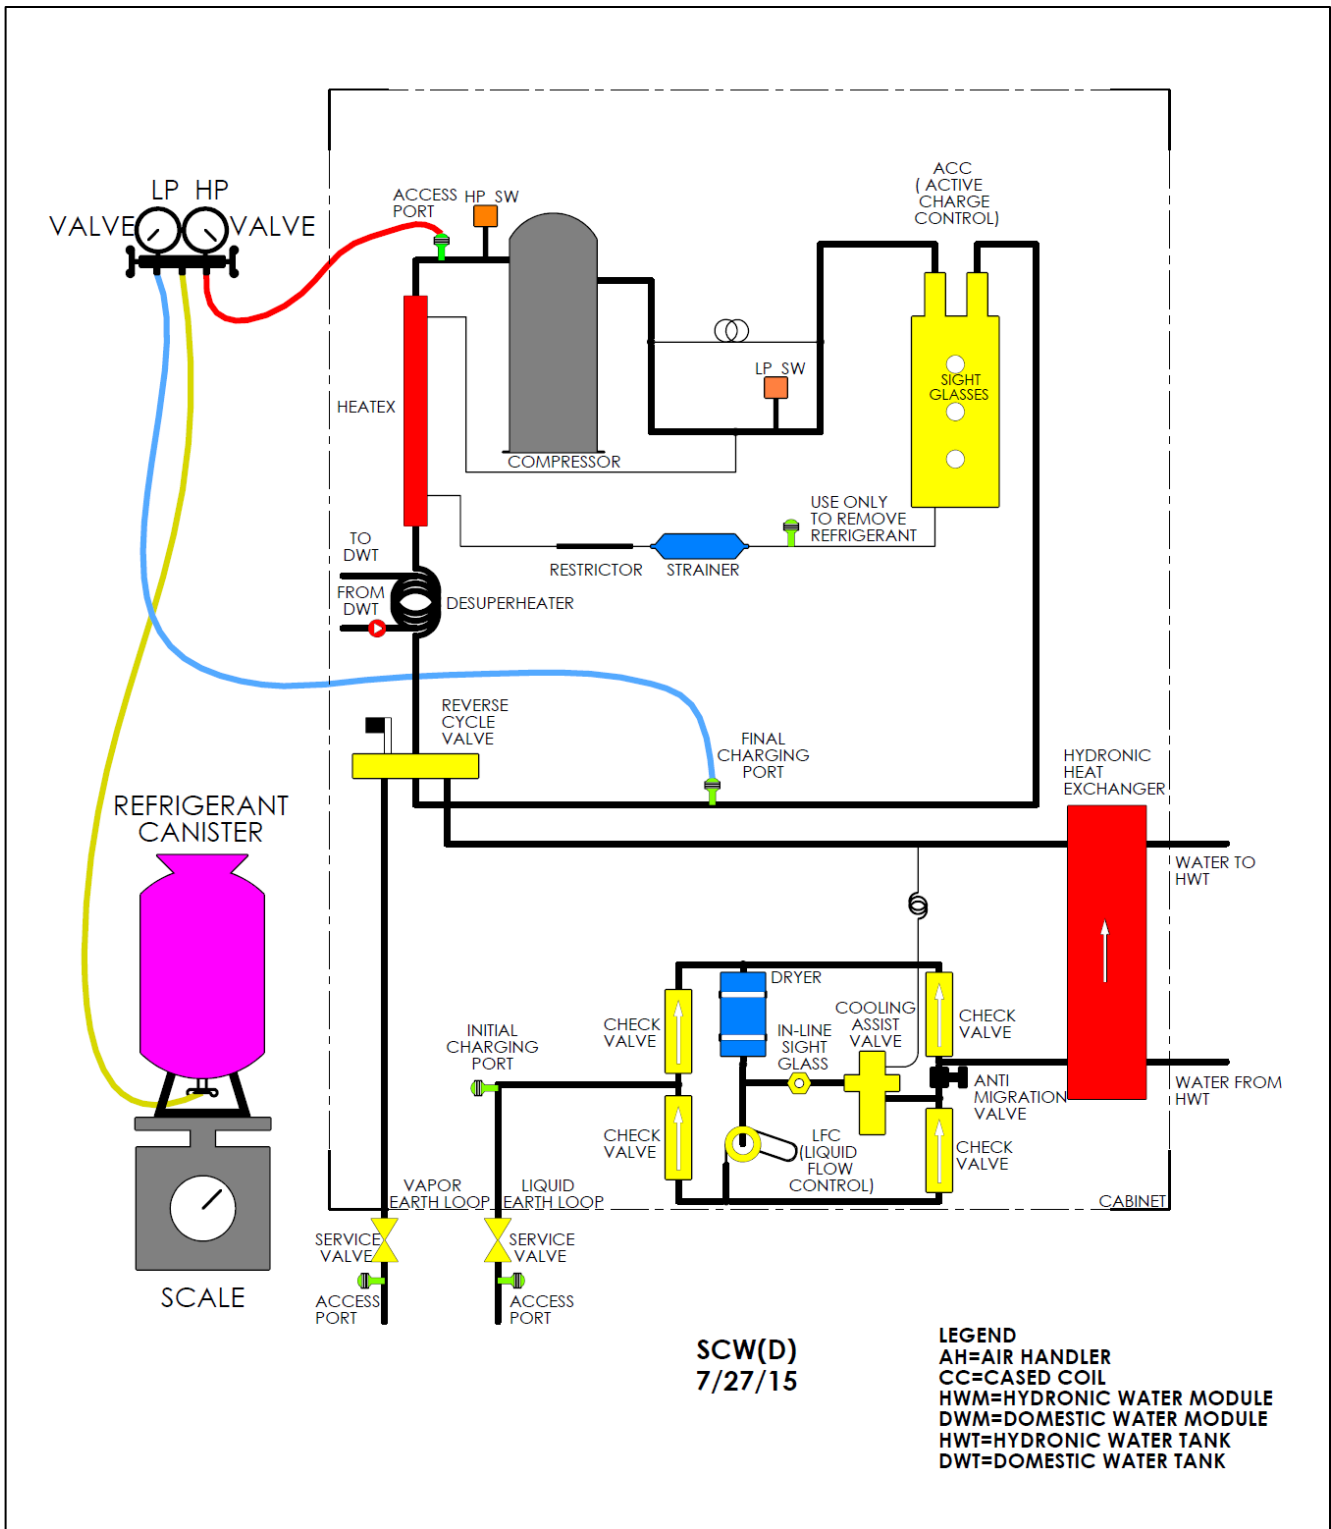

Figure 26. Final Charge of SCW(D) System
2. Crack open the LP valve on the manifold gage set so that a small amount of refrigerant gas flows to purge the hose. Connect the hose to the final charging port, shown in Figure 26. Tighten the hose to the final charging port and turn off the LP valve when the hose connection is secure.
7. With the liquid refrigerant level at the middle sight glass, attach and insulate a temperature clamp or probe securely to the earth loop vapor line at the compressor unit service valve shown in Figure 26. Read the measured temperature. Also read the LP gage pressure on the manifold gage set. Use a pressure/temperature chart (Figure 32) to verify that the system is operating at saturation, meaning that no superheat is measured on the earth loop vapor line. To verify this, the measured vapor line temperature should be within $\pm 3^{\circ}\text{F}$ of the saturation temperature read from the chart for the measured LP gage pressure. If the measured temperature is out of this range, contact ETI technical support at 1/863-701-0096.